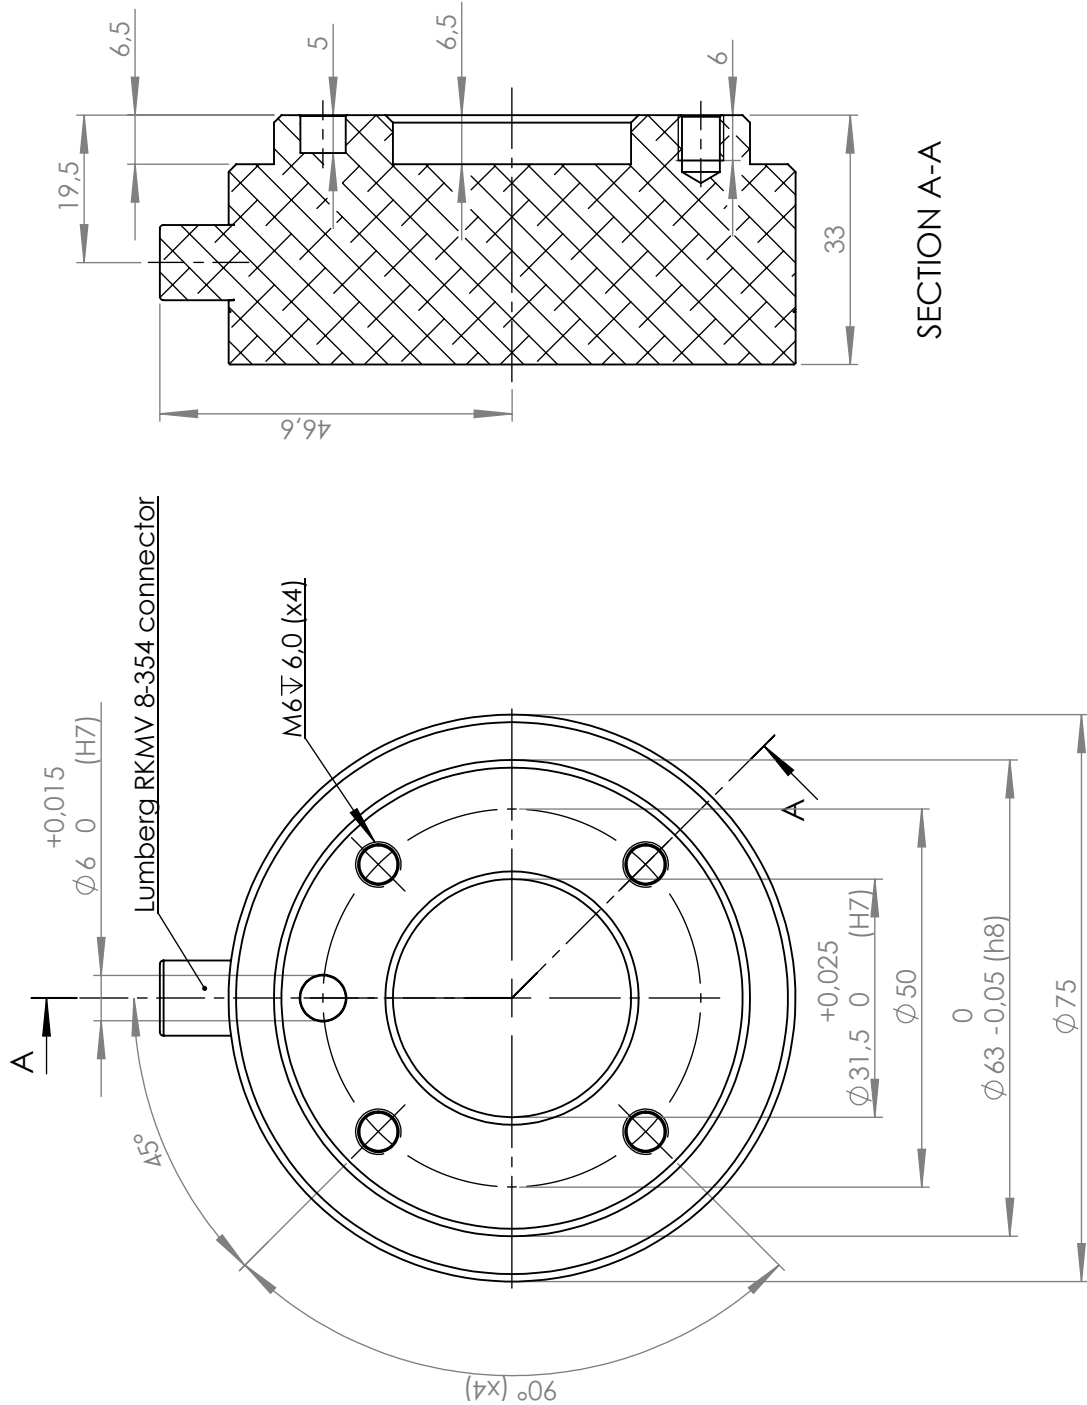

Figure 3.2: The tool output flange, ISO 9409-1-50-4-M6. This is where the tool is mounted at the tip of the robot. All measures are in mm.
**Tool** The robot tool flange has four M6 thread holes for attaching a tool to the robot. The holes need to be tightened with 9 N m. If very accurate repositioning of the tool is desired, the Ø6 hole is provided for use with a pin. Figure 3.2 shows where to drill holes and mount the screws.